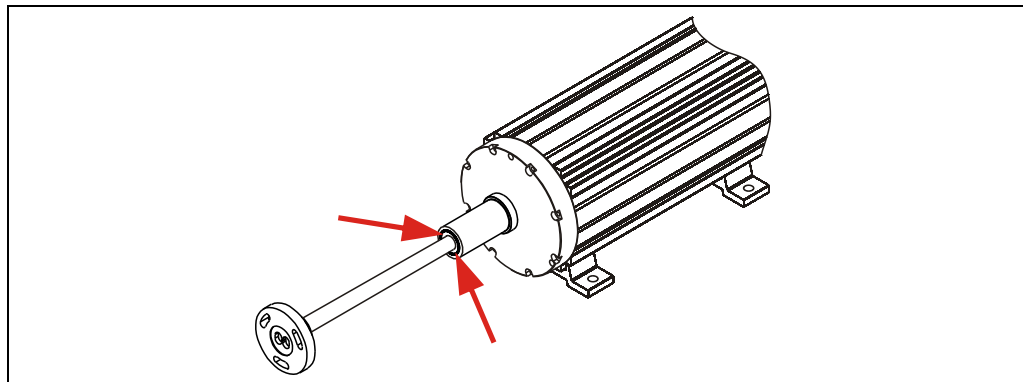

Figure 3: Eccentric rod sealing ring
- Protect measuring system against penetrating liquids, splashing water must not be pointed directly towards the eccentric rod sealing ring, see Figure 3.